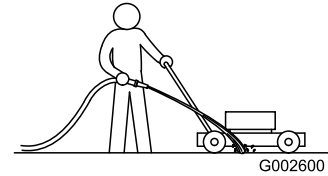

Figure 49
1. With the engine running on a flat paved surface, spray a stream of water in front of the **right** rear wheel (Figure 49).